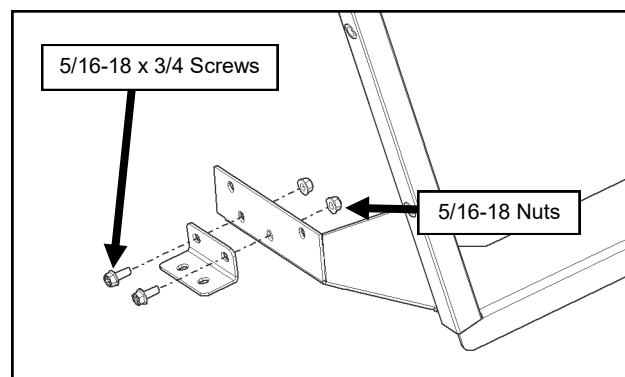

Fig. 3.2 (Pre-Assemble Bracket to A-Pillar)
- 3.2 Pre-assemble an A-Pillar mounting bracket to the left A-pillar. See Figure 3.2.